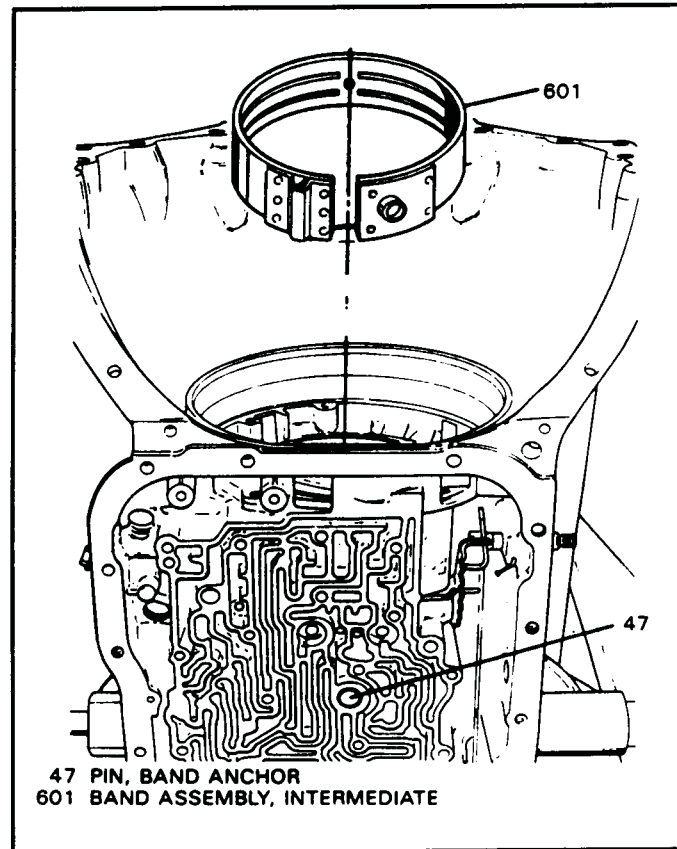

Figure 100
45. Install the intermediate band around the direct clutch housing and in the case (See Figure 100)
46. Install the band anchor pin through its bore in case, (See Figure 100) and engage it into the band lug.